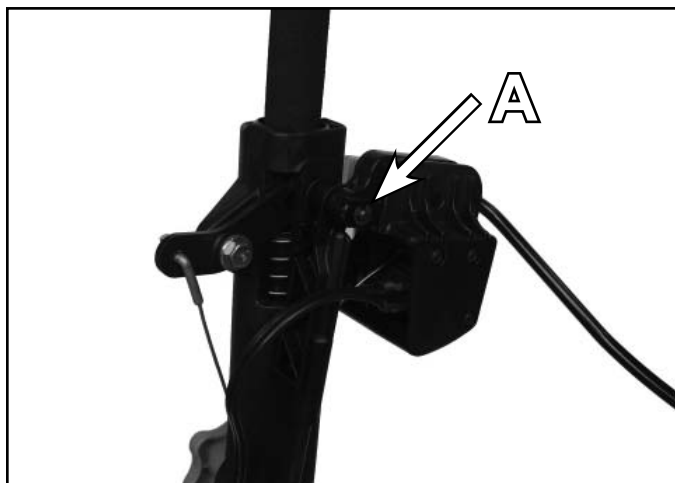

Fig 253
2. Remove the e-clip on the left side pivot pin (Fig. 253).